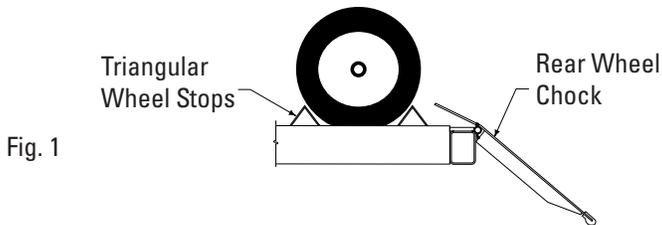

Fig. 1
- **Always** engage parking brake and use the wheel chocks, Fig. 1, to keep the vehicle from rolling freely on the runways.
- Stop vehicle when it contacts the front wheel stops. At all times, be sure rear wheels are forward of the ramp/chocks and the ramp/chocks will clear tires when the lift is raised, Fig. 1. Driver and passengers must exit before raising.
- Place triangular wheel chocks on each side of one of the rear tires, Fig. 1.